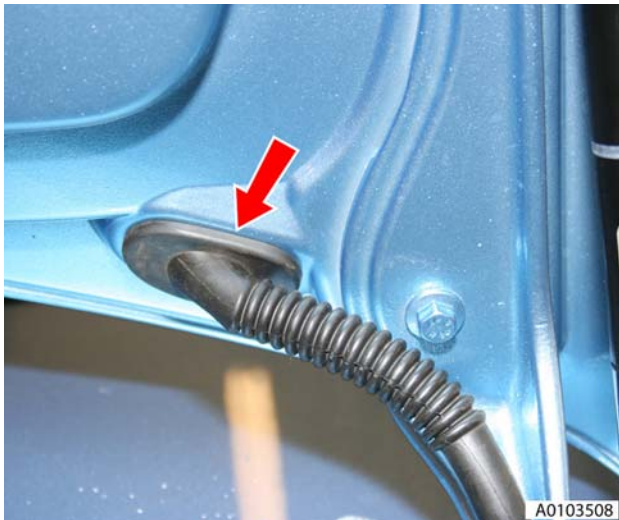

Figure 5
9. Release clips securing harness to boot lid, release grommet and remove harness (see Figure 5).